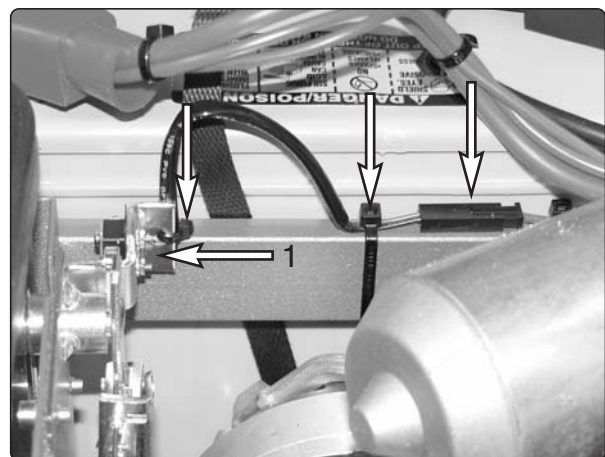

Fig.14. Brake release sensor.
4. Remove the two screws holding the sensor, see fig.14:1.
5. Cut off the two ties and disconnect the cable connector, see fig. 14.